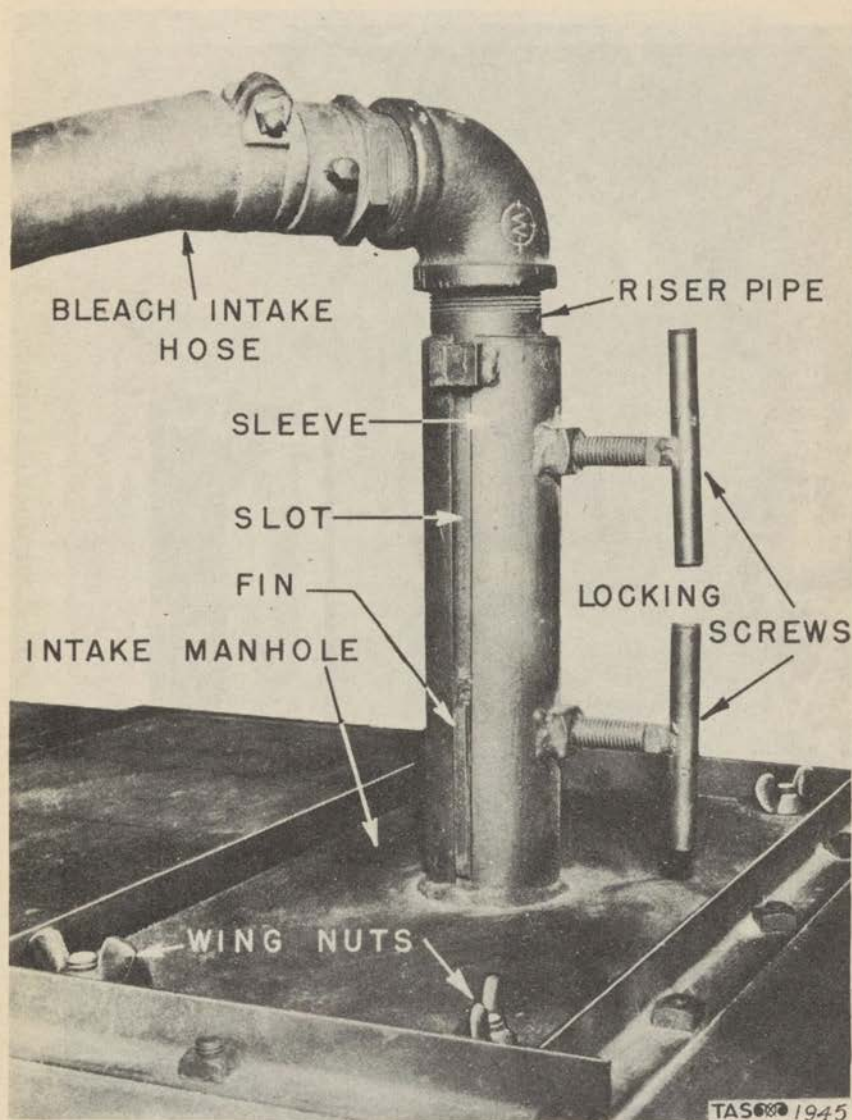
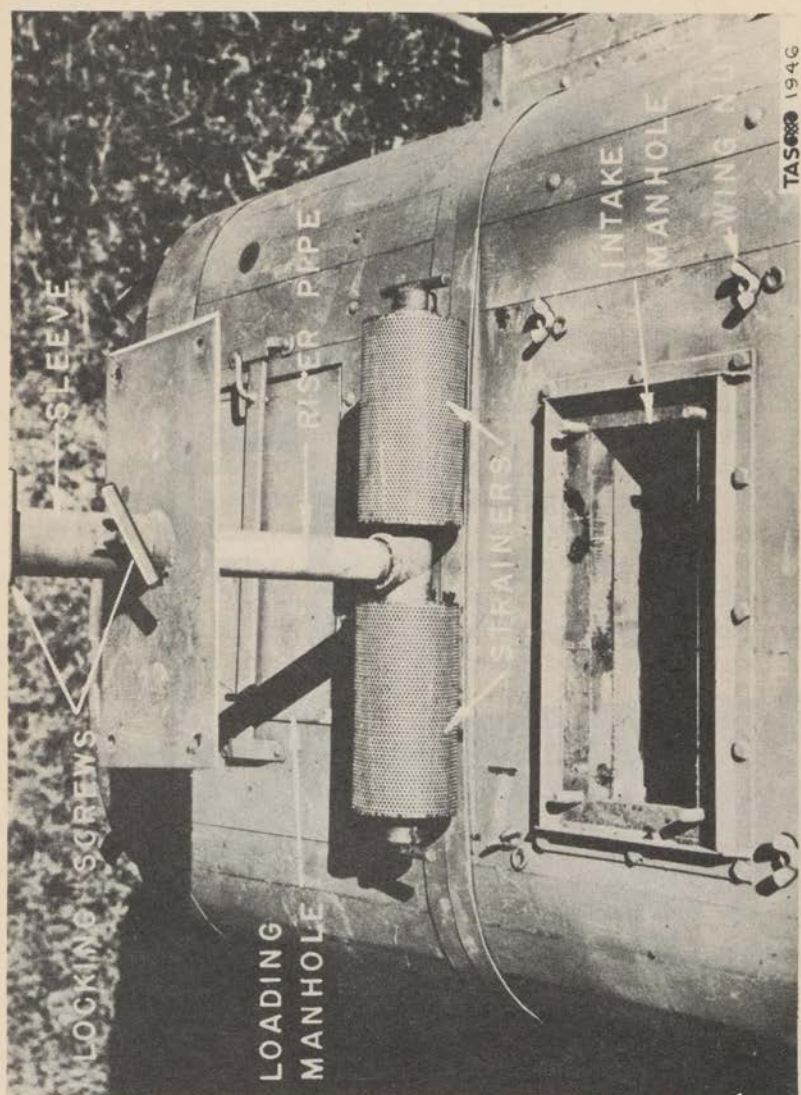

Figure 3. Exterior Parts of Strainer Assembly.
Figure 4. Typical Strainer Assembly.
c. Special equipment and control valves. (1) General. A proper suspension of chlorinated lime (bleach) and water is much more difficult to obtain than a suspension of commercial orchard insecticide. To prevent the nozzles from being clogged, a special strainer is incorporated in the tank.
(2) Strainer assembly. The strainer assembly consists of two cylindrical strainers with their slotted pipe supports and holding caps, a riser pipe, a cover plate, and a sleeve with two handscrews to hold the riser pipe in place. (See figures 3, 4, and 5.) The cover plate is fastened over a small manhole near the center of the mixing tank by four bolts and wing nuts. The entire strainer assembly may be removed from the tank by unscrewing the four wing nuts. (See figure 4.) The strainers may also be removed, with the remainder of the assembly in place, by unscrewing the holding caps after first lifting the riser pipe to such a height that the strainers may easily be reached from the manhole. The two hand-screws on the cover plate sleeve are used to clamp the riser pipe and strainers in position at any desired height in the tank. The sleeve is provided with a slot so that when the strainers are dropped to the lowest position the fin on the riser pipe will slide in the slot and thereby hold the strainers so that they will clear the agitator shaft.